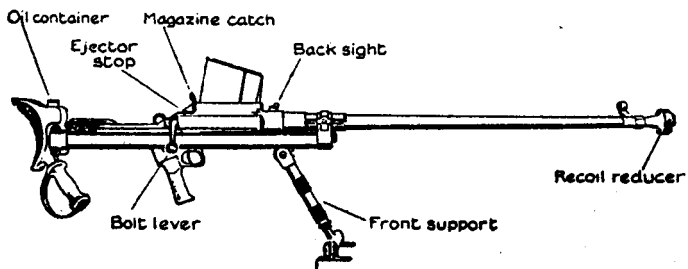

Fig. 1
*Each part of the rifle should be named as handled (see Figs. 1, 2, 2A, 3).*